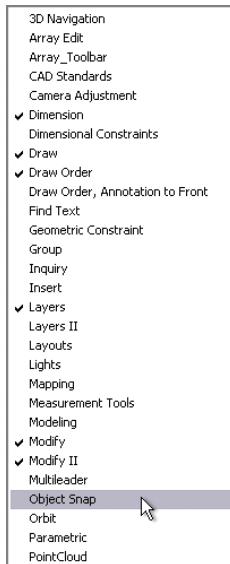

FIGURE 1.8 Using the context menu to open toolbars
3. Position the cursor over a docked toolbar button and right-click; a toolbar context menu appears. Select Object Snap from this menu (Figure 1.8).